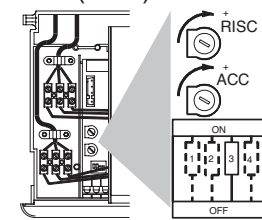

Figure 15.9
- Loosen screws D and remove the service panel (Figure 15.9).
- To carry out the adjustment move the function selector 3 to the OFF position (Fig. 15.9) and use the device (ACC).
- After the adjustment operations bring the selector 3 of Figure 15.9 back to the normal position (ON).